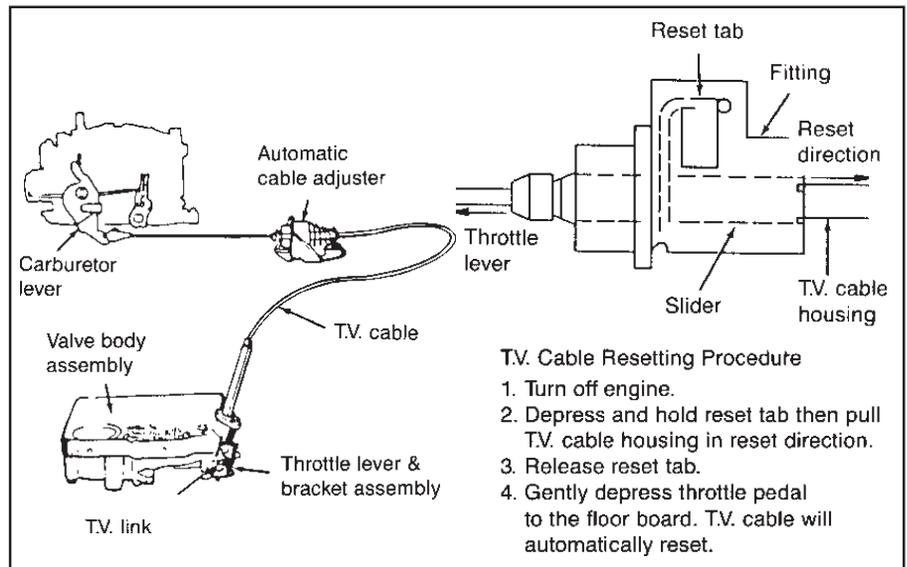

Figure 13
STEP 24. You must reset the TV cable before operating vehicle, Figure 13 shows the correct procedure. Failure to reset the TV cable may
2. Check TV Cable adjustment (**See Fig. 13**).